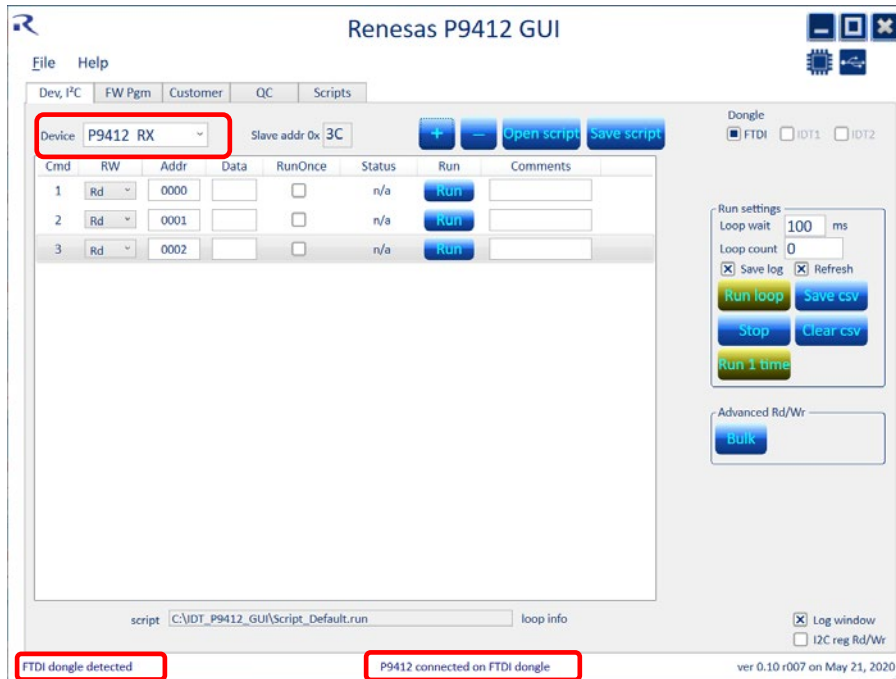

Figure 5. Initial Screen of P9412 GUI
1. Open the GUI program – P9412_Demo_GUI_v0.10r007_.exe or higher. The initial screen of the GUI is shown on Figure 5.